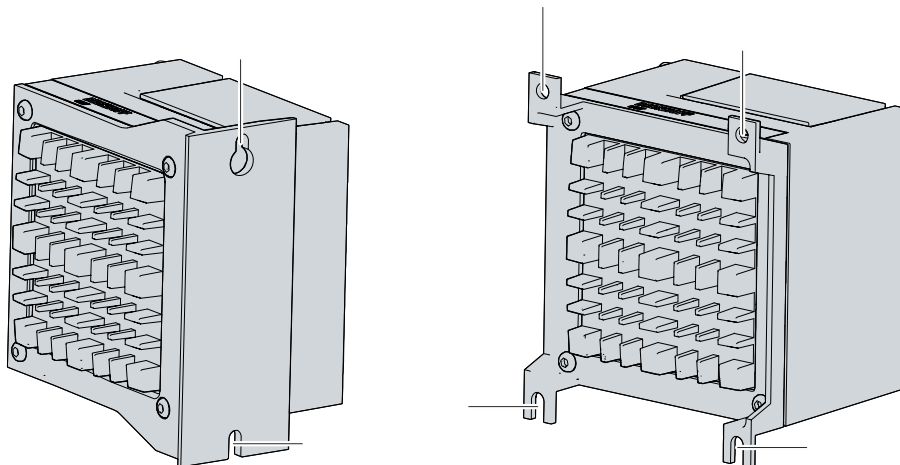

Fig. 19: Mounting plates for control cabinet installation
2. Hang the PC on the screws at the marked points of the mounting plate (see Fig. 19).